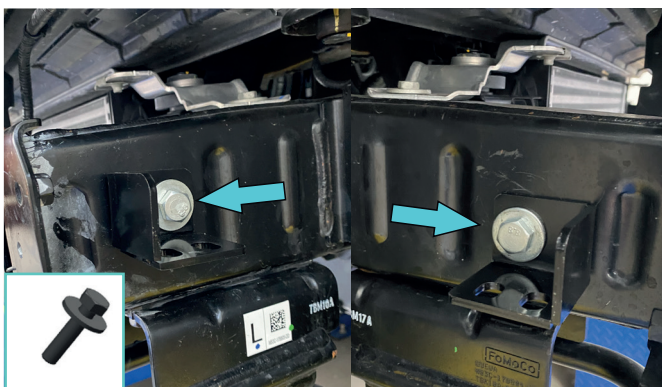

Fig.22
22. Install brackets for reinforcement (item 38, 39) on the left side of the frame using bolts M8x30, washers 8 (item D, J) (fig.22).